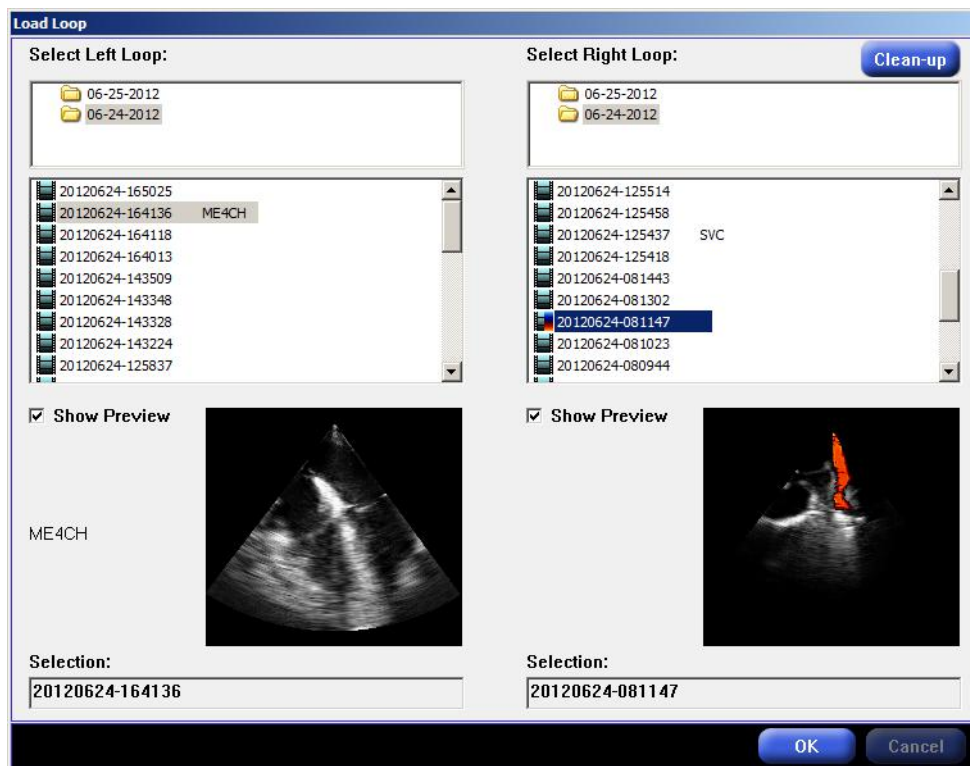

Fig. 76 Split View mode – loading two cineloops
- 3 When the Load Loop window is displayed, select a loop from the left and one from the right pane, as shown in Figure 76.